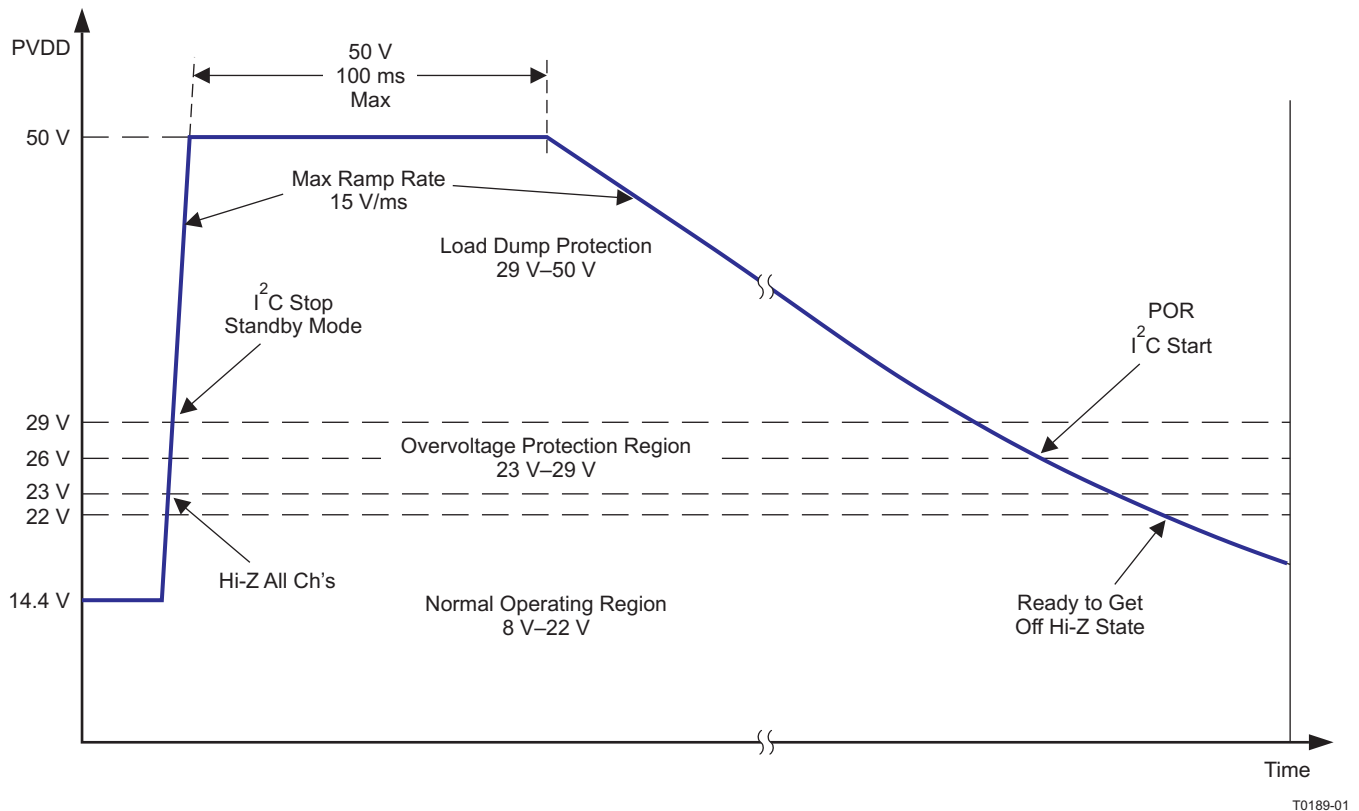

Figure 15. Voltage Operating Regions With Load Dump Transition Defined
6. **Undervoltage (UV) and Power-on-Reset (POR)**—The undervoltage (UV) protection detects low voltages on PVDD, AVDD, and CP. In the event of an undervoltage, the **FAULT** pin is asserted and the I2C register is updated, depending on which voltage caused the event. Power-on-reset (POR) occurs when PVDD drops low enough. A POR event causes the I2C to go into a high-impedance state. After the device recovers from the POR event, the device must be re-initialized via I2C.
7. **Overvoltage (OV) and Load Dump**—The OV protection detects high voltages on PVDD. If PVDD reaches the overvoltage threshold, the **FAULT** pin is asserted and the I2C register is updated. If the voltage increases beyond the load dump threshold of 29 Vdc, the device shuts down and must be restarted once the voltage returns to a safe value. After the device recovers from the  $\neq$  load dump event, the device must be re-initialized via I2C. The TAS5414A and TAS5424A can withstand 50-V load-dump voltage spikes (see Figure 15). Also depicted in this graph are the voltage thresholds for normal operation region, overvoltage operation region, and load-dump protection region. Figure 13 shows the regions of operating voltage and the profile of the load dump event. Battery charger voltages from 25 V to 35 V can be withstood for up to 1 hour.